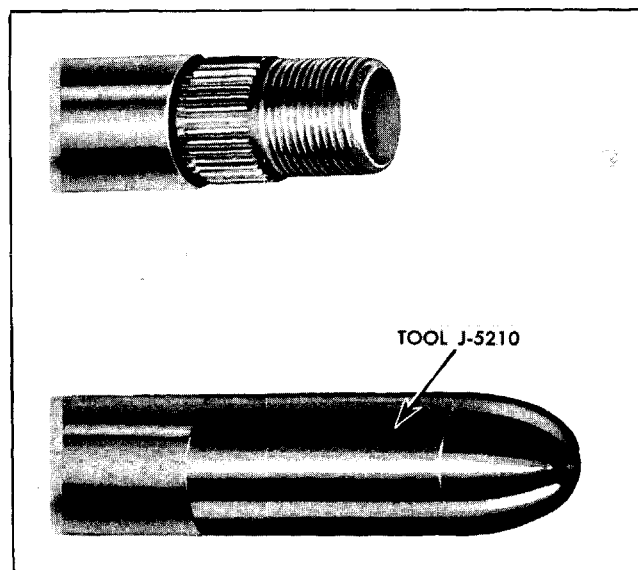

Fig. 9-42 Tool J-5210 Installed on Steering Shaft
6. Run ball nut to upper end of worm, then slide steering shaft and nut into housing with tool J-5210 in place on upper threads of steering shaft to protect upper housing seal (Fig. 9-42).